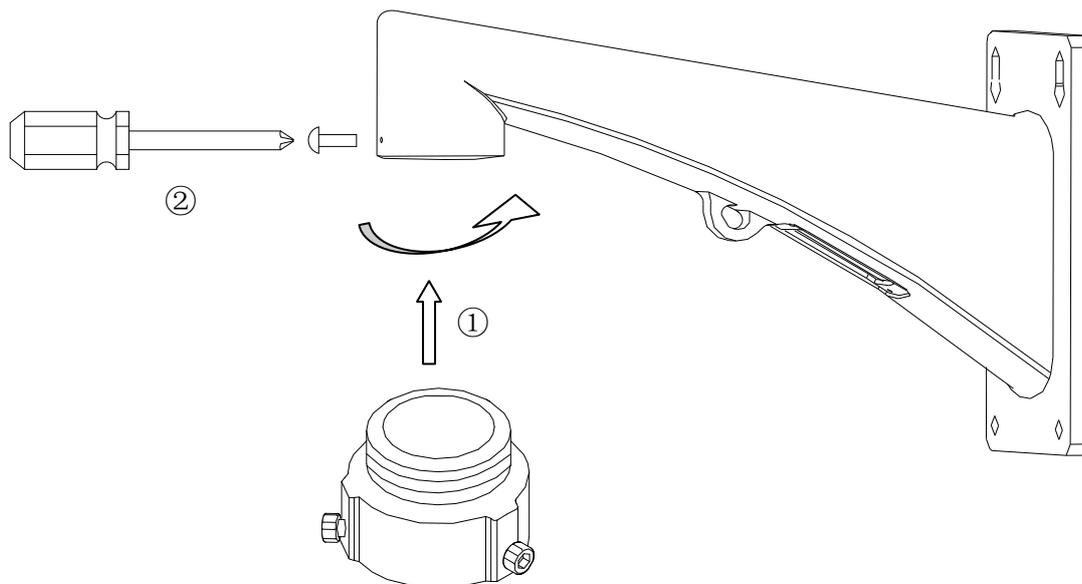

Figure 1-5 Install the Pendant Adapter
9. Secure the pendant adapter to the wall mount with a set screw (supplied) as shown in Figure 1-5.